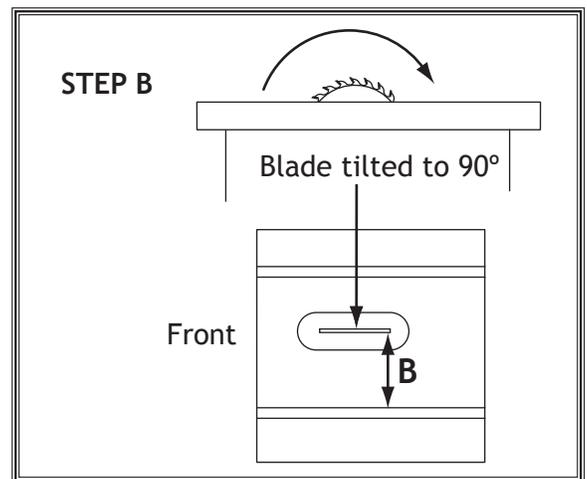

Figure 111. Making second slot-to-blade measurement at 90°.
5. Slide adjustable square down to other end of table insert and compare distance from marked blade tip to end of adjustable square, as shown in **Figure 111**.